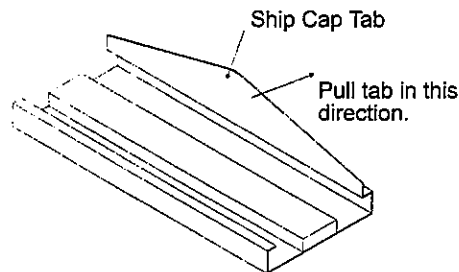

Figure 4.1 - Printbar Ship Cap
3. Rotate the Printhead over 180° and remove the Printbar Ship Cap by pulling the Cap tab forward with one hand while holding the sides of the Printhead with the other hand. *See Figure 4.1* below for an illustration of the Ship Cap.